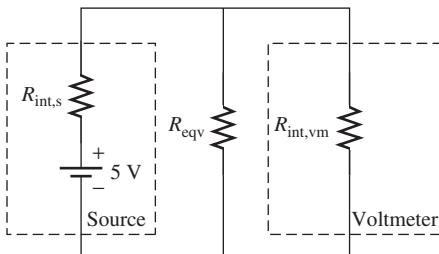

FIGURE P14.17 Using a voltmeter to check circuit voltage.
- 14.17** (A) A 5 V source (V_s) with a 5Ω internal resistor ($R_{int,s}$) is providing power for a circuit whose equivalent resistance (R_{eqv}) is 500Ω (shown in Figure P14.17). Assume that you use a voltmeter with a $1 M\Omega$ internal resistor ($R_{int,vm}$) to check the voltage on the circuit. When you begin to check the voltage, how will the voltage applied on the circuit change? How much will it change? If the voltmeter's internal resistor is 500Ω , how much would the change be?